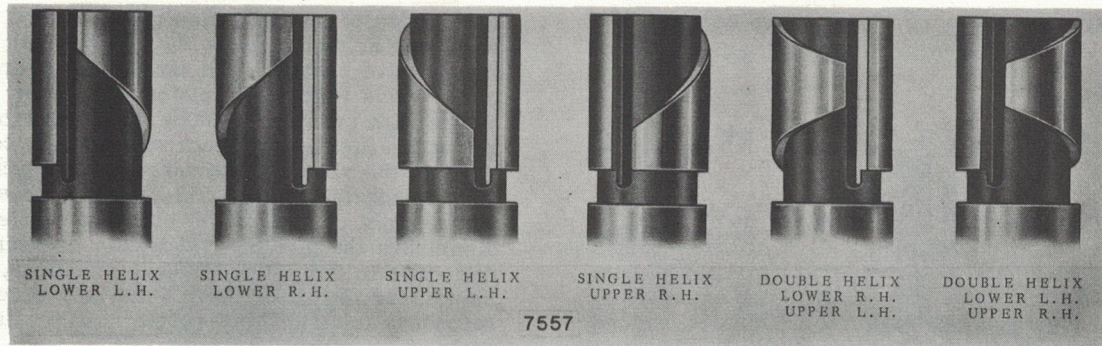

FIGURE 2-4 - Plunger Helices
2.1-2 PLUNGER HELIX ARRANGEMENT (Figure 2-4)
- As illustrated in Figure 2-4, plungers for APF pumps can have various helix arrangements, and the type applied to a particular pump is dependent on the fuel delivery curve requirement specified by the engine manufacturer.